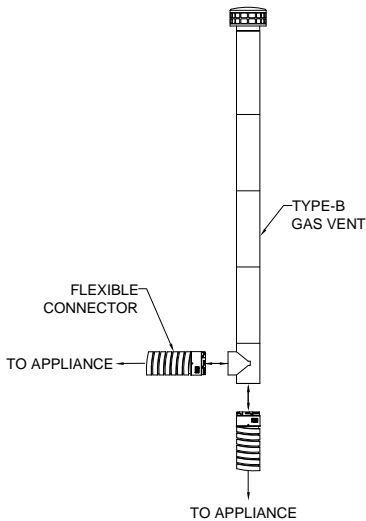

FIG. 3
- c. Inlet end of Type-B gas vent Tee or "Y" (See FIG. 3)